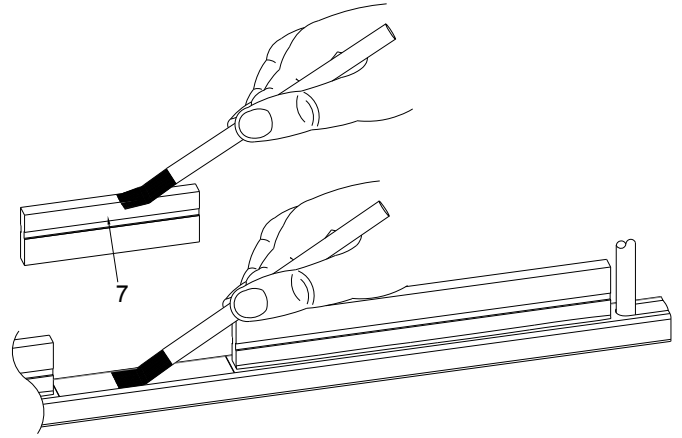

Figure 40
Coat the area marked on the electrode with the primer provided with the adhesive and primer kit. Then apply a thin coat of the primer to the contact edge (7) of the tab (**Figure 40**). Allow the primer to dry for 30 minutes.